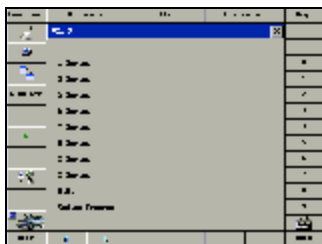

Fig.3.31
2. Select **BMW** to enter the Software version you like to use, you will get interface as shown in Fig.3.31.
3. Select car model **1 series** (see Fig.3.31).